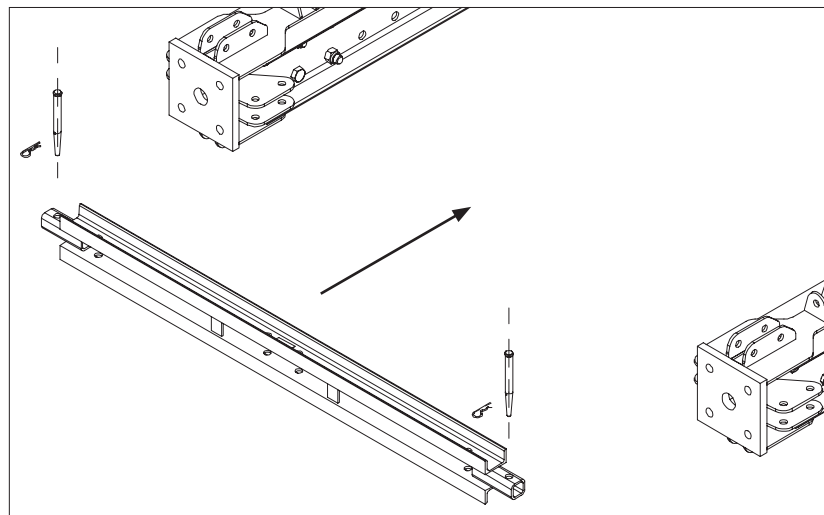

Fig. B3.01b
4. Repeat the procedure for all horizontal ledgers VST 200 (23). (Fig. B3.01b)